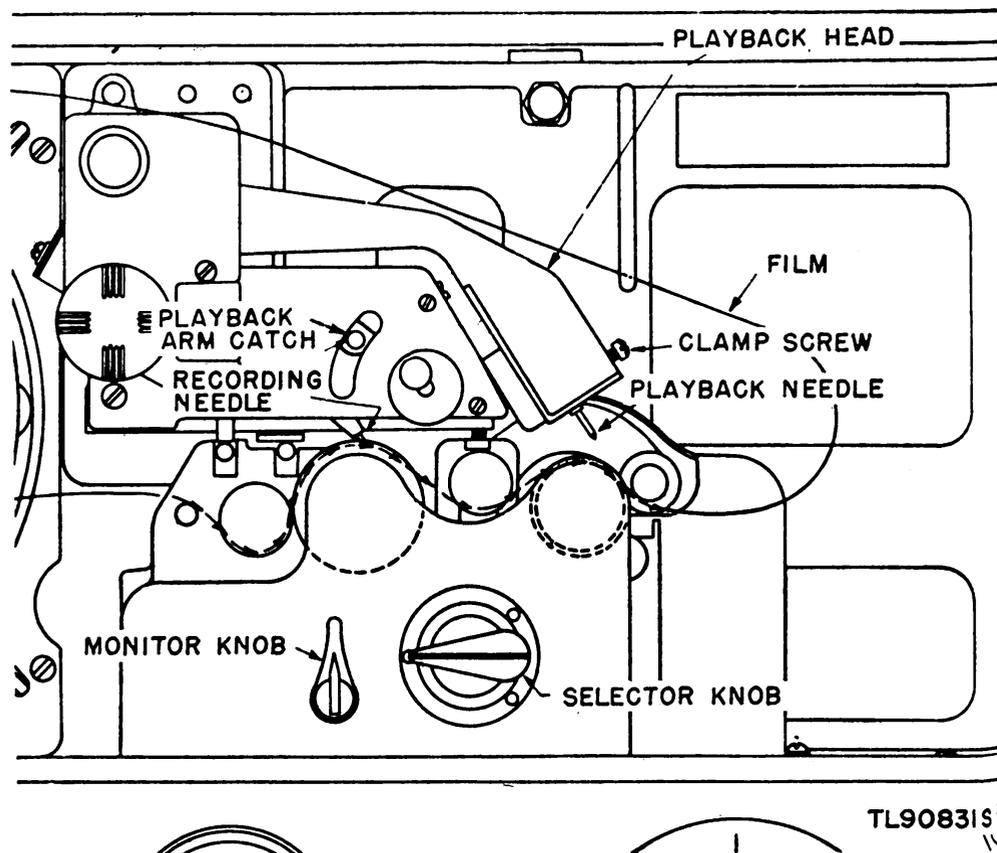
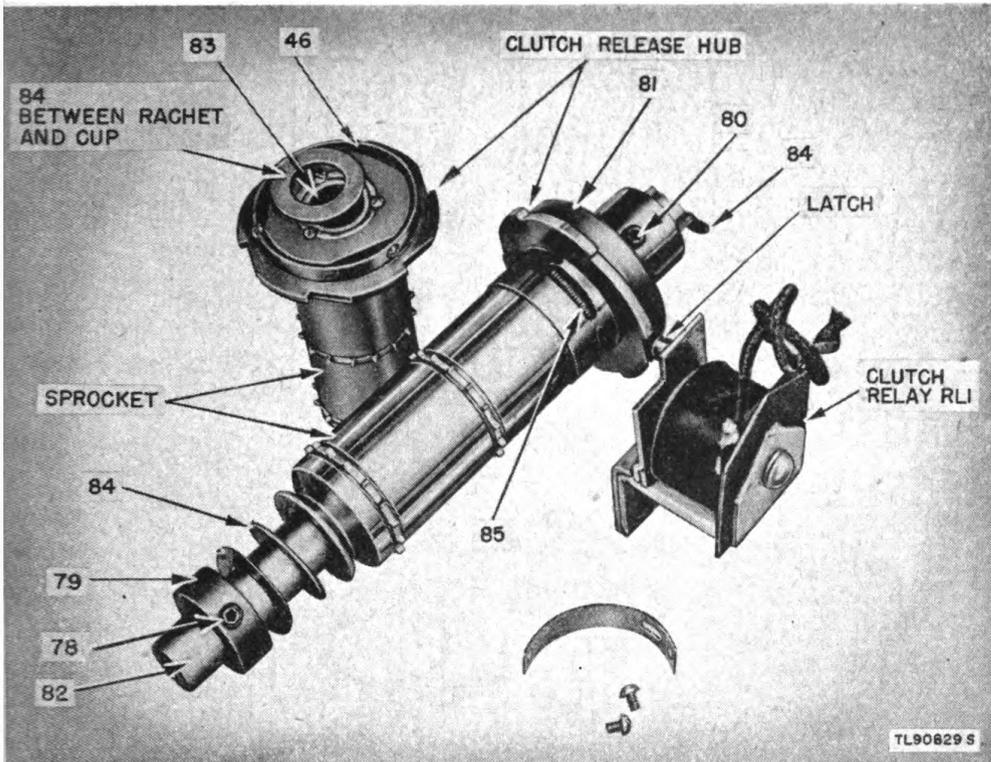

Figure 36. Front view of carriage assembly.
Figure 37. Sprocket and clutch assembly, Sound Recording Set AN/UNQ-1.
a. REMOVAL (fig. 36). (1) Turn selector knob to NEUTRAL. See that MONITOR knob is pointing up.
(2) Loosen the clamp screw sufficiently to release the playback needle.
(3) Remove the needle (needle wrench may be used to facilitate handling). Avoid damaging the needle point.
b. INSERTION (fig. 36). (1) Turn selector knob to NEUTRAL. See that the MONITOR knob is pointing up.
(2) Turn the clamp screw sufficiently to permit insertion of needle into hole at the bottom of the playback head.
(3) Insert needle up as far as it will go (needle wrench may be used to facilitate handling). Hold in that position and tighten the clamp screw firmly. Do not force.
## 85. Removal and Insertion of Recording Needle (fig. 36)
*a.* **DISASSEMBLY** (fig. 37). The following disassembly procedures apply to Sound Recording Let AN/UNQ-1 only unless otherwise noted.
(1) Remove the recording bracket front cover (fig. 11), clutch relay, sprocket brush assembly (fig. 36), idler roll (8), and idler roll arm adjusting bar (77).
(2) Slide the idler roll off its supporting shaft; do not remove the shaft or the arm to which it is fastened.
(3) Loosen the setscrew (78, fig. 37) in the retaining collar (79) at the outer end of the sprocket.
(4) Loosen the setscrew (80) in the clutch cup (81) which positions the shaft (82) against the main frame. These two setscrews engage with flats on the shaft which are about  $\frac{1}{32}$  inch
(5) Withdraw the flywheel and the shaft out of the bearings (83) in the sprocket and from the clutch cup. Be careful to hold the sprocket assembly and cup together until they are out of the set; otherwise, the three small balls (46, fig. 37) inside the clutch may be lost.
b. ASSEMBLY. (1) Follow the above procedure in reverse order.